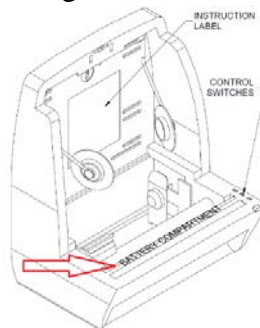

Fig. 3
3. If using mechanism for battery operation, install/re-install 8374 mechanism with four (4) 1/4-20x3/8 Phillips pan head screws through slots marked  into tapped holes in cabinet back and continue onto step 4 below.
5. The battery compartment is located at the front lip of the mechanism (Fig. 3). The cover to the battery compartment is removed by pushing the left hand tab inward and lifting up.